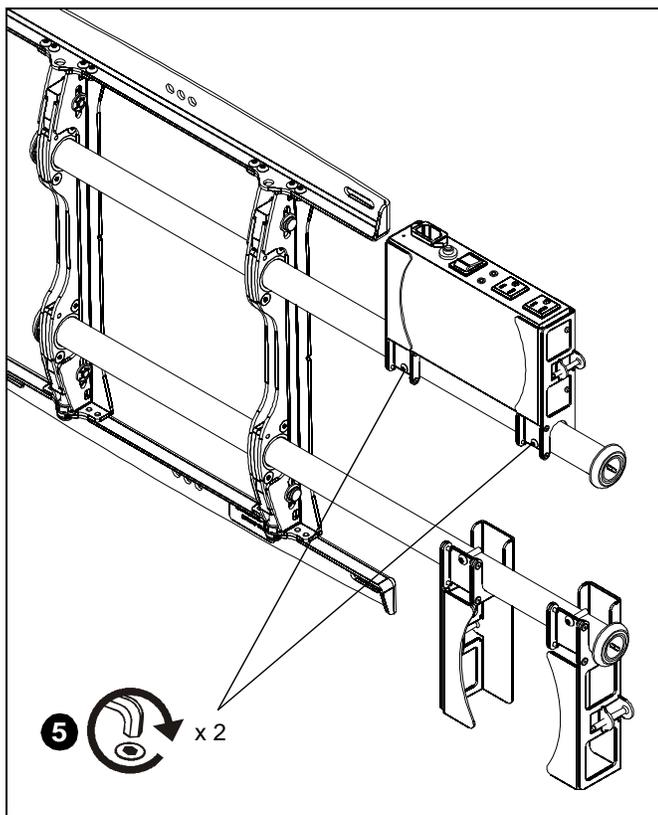

Figure 4
8. Tighten the button head cap screws to complete installation of the FCA102 bracket. (See Figure 4)